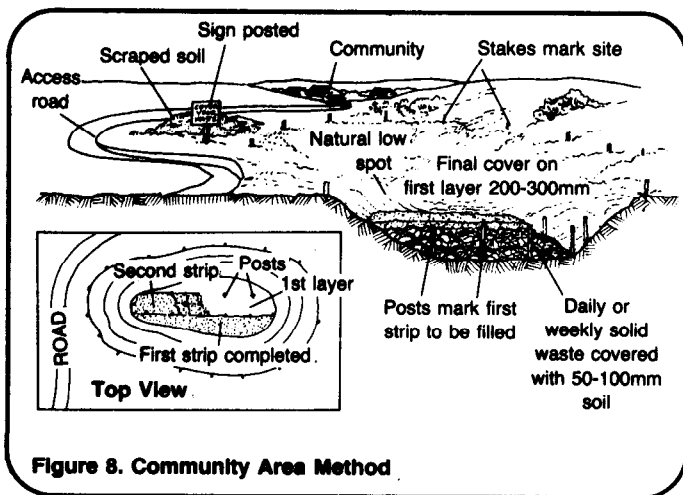

Figure 8. Community Area Method
8. As each portion of the layer or strip nearly reaches the design height, cover with 200-300mm of soil and extend the access road onto the filled portion. Wheel the carts or vehicles over the filled area and dump waste at the working face of the layer or strip. If necessary, lay down logs, bamboo matting, or equivalent, to prevent vehicles from sinking in. See Figure 8.
1. Using the location map, design drawings, and measuring tape, locate the site and mark the boundaries of the depression or low spot with wooden stakes. See Figure 8.
4. If the depression is to be filled in strips or layers, set posts, poles, or long sticks to mark the boundaries and height of the first layer or strip. See Figure 8.